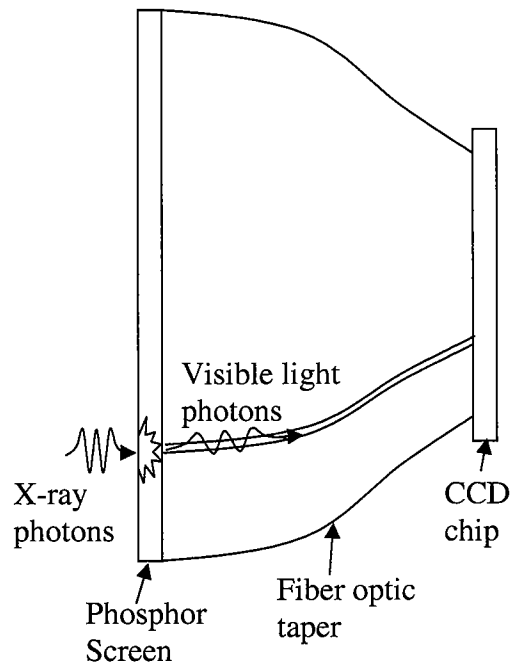

Figure 26 - Side view of CCD X-ray detector (not to scale)
- **X-ray conversion to light by phosphor screen (see Figure 26)**
- **Light demagnification onto CCD (see Figure 26)**